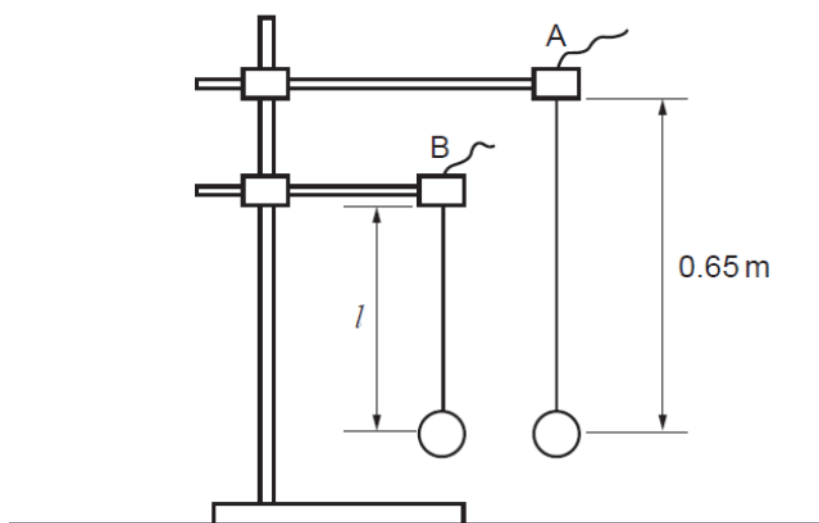

Fig. 3.1
- (a) Set up two pendulums side by side as shown in Fig. 3.1, with each string clamped between two wooden blocks.